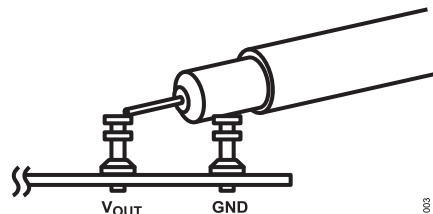

Figure 3. Scope Probe Placement for Measuring Output Ripple Voltage
6. Once the input and output voltages are properly established, adjust the input voltage between 6V to 14V max and the load current within the operating range of 0A to 31.25A max per channel. Observe the output voltage regulation, output voltage ripples, switching node waveform, load transient response, and other parameters. See Figure 3 for proper output voltage ripple measurement.
To measure the input/output voltage ripples properly, do not use the long ground lead on the oscilloscope probe. See Figure 3 for the proper scope probe technique. Short, stiff leads need to be soldered to the (+) and (–) terminals of an input or output capacitor. The probe's ground ring needs to touch the (–) lead, and the probe tip needs to touch the (+) lead.